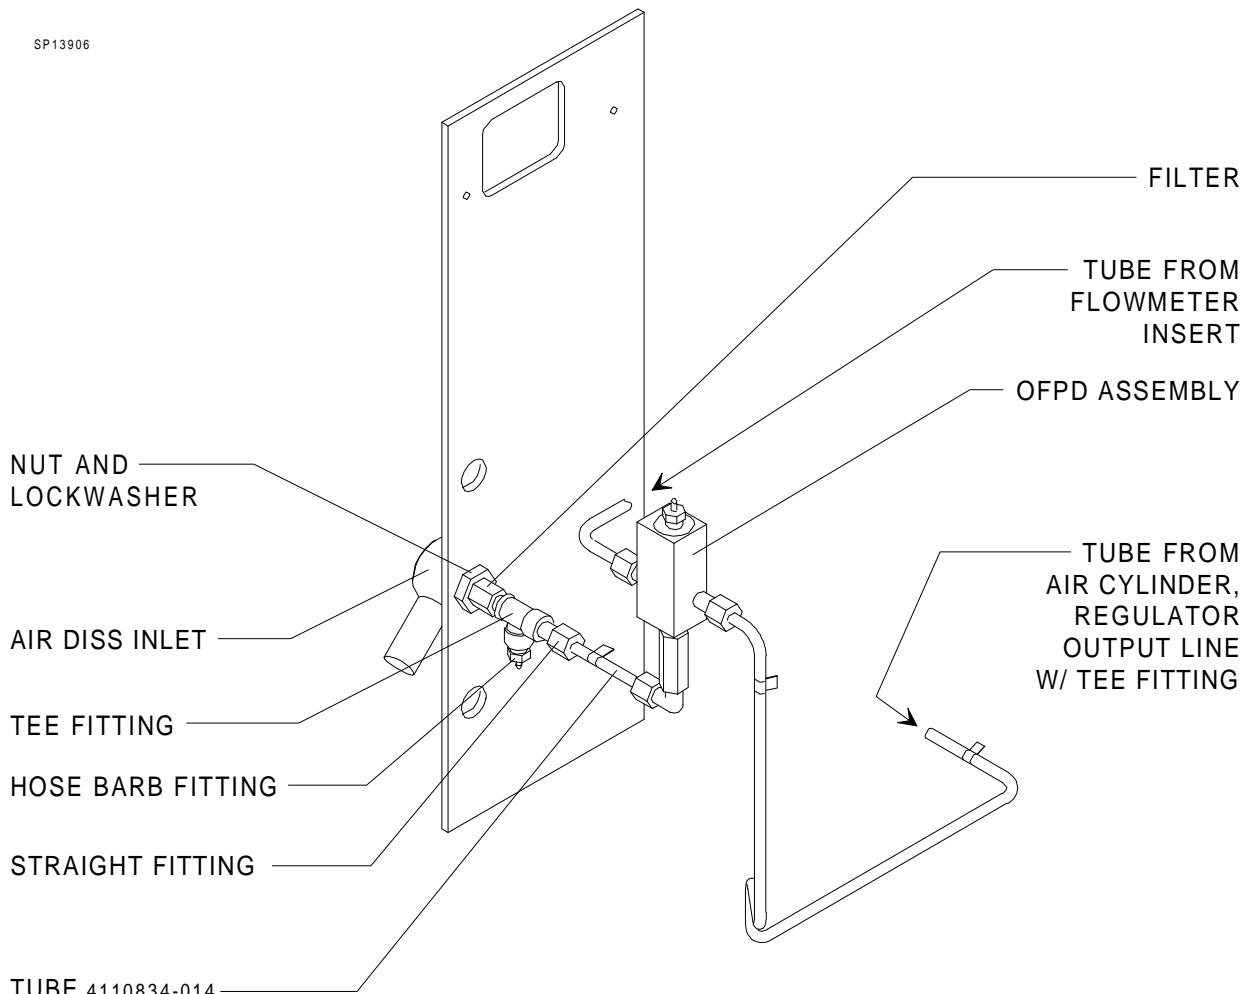
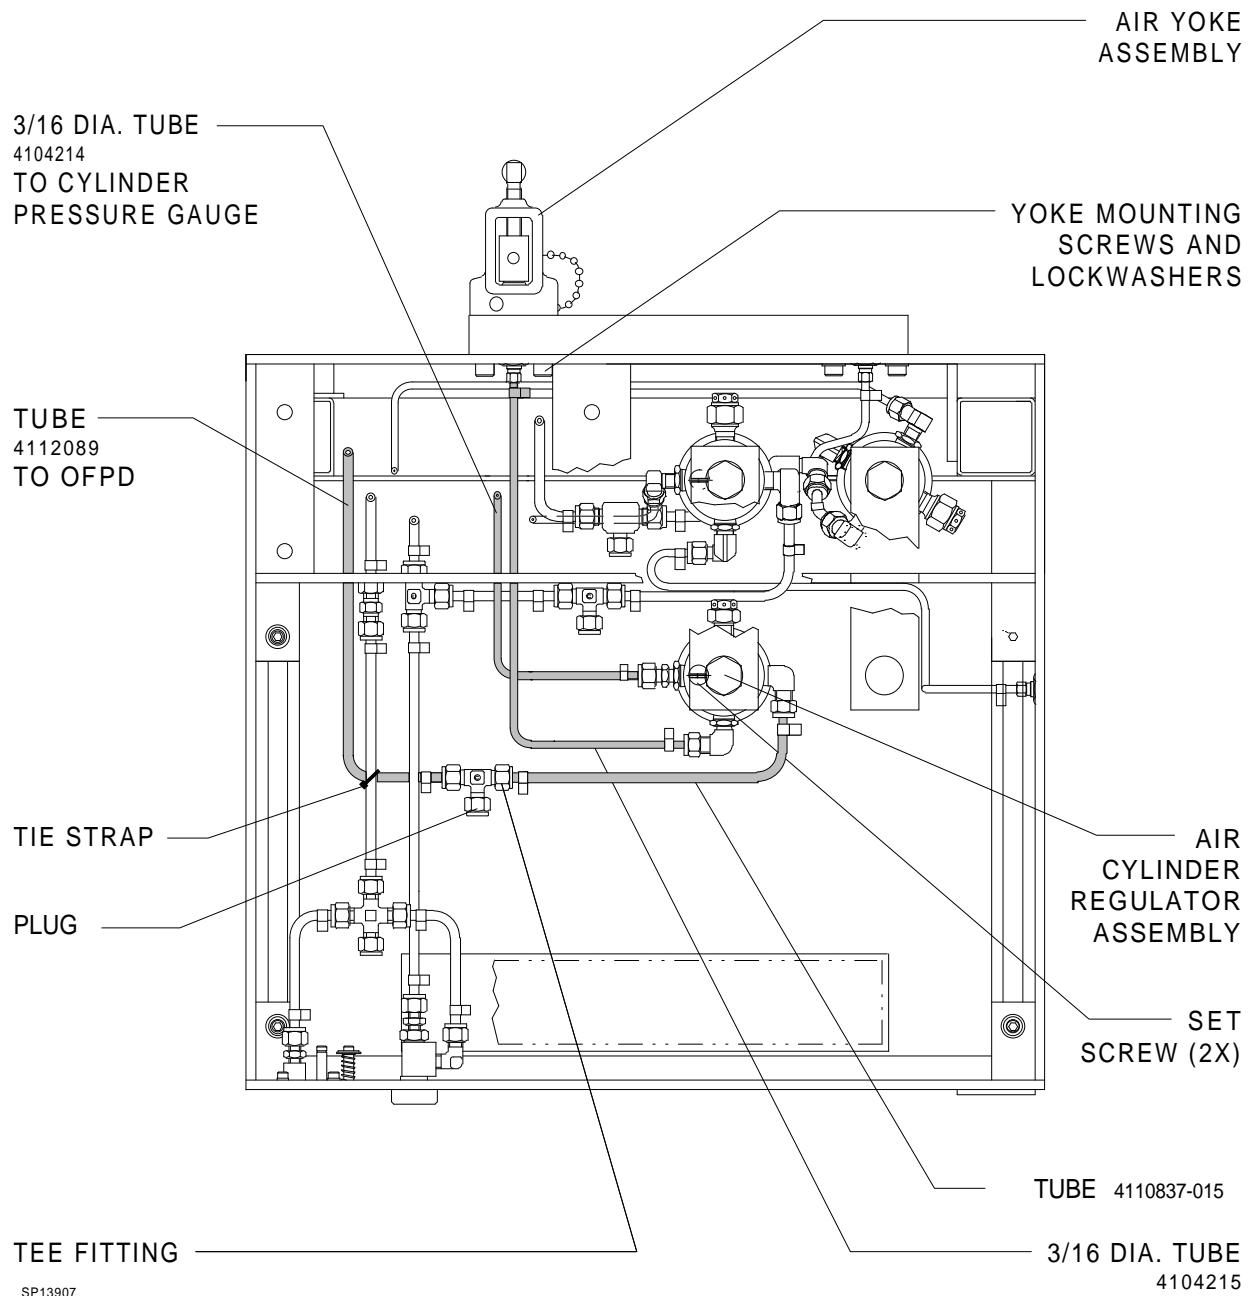

Figure 6: OFPD INSTALLATION
Figure 7: AIR YOKE, REGULATOR AND TUBING INSTALLATION
41. Install an Air DISS inlet assembly (P/N 4109412) as shown in Figure 6, with a $\frac{5}{8}$ in. int-t lock washer (P/N HW67001) and $\frac{5}{8}$ -18 nut (P/N HW52002). Orient the assembly at the same 70° angle as the other pipeline inlets.
43. Place a drop of red Loctite #271 on the threads and install the tee fitting (P/N 4102760) into the filter as shown in Figure 6.
44. Place a drop of red Loctite #271 on the threads and install a hose barb fitting (P/N 4111771) in the center port of the tee fitting as shown in Figure 6.
47. Connect the copper tube from the Air flowmeter insert (previously installed) to the side port on the OFPD assembly. See Figure 6.
48. Install the air cylinder regulator assembly (P/N 4104603) with two 10-32 x 1/2 in. set screws (P/N HW10001). Orient the regulator as shown in Figure 7 with the Inlet marking toward the front of the machine. Tighten the mounting screws to a torque of 55 in. lbs.
49. Attach the copper tube (P/N 4110837-015) to the outlet port on the regulator as shown in Figure 7. Install a yellow AIR label at each end of this tube.
51. Connect the copper tube (P/N 4112089) between the remaining port on the tee fitting and the remaining side port on the OFPD. See Figures 6 and 7. Install a yellow AIR label at each end of this tube. Tie strap the tube to the O₂ line as shown in Figure 7.
54. Connect the 3/16 in. dia. tube (P/N 4104214) between the side HP port on the regulator and the cylinder pressure gauge. See Figures 7 and 4. Install a yellow AIR label at each end of this tube.